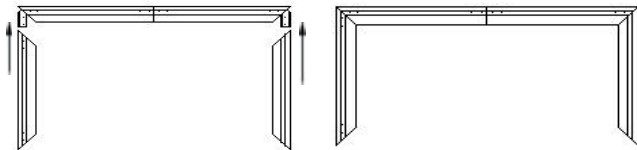

Fig 5
5. Slide the vertical frame parts (B) onto the corners (Fig. 5).